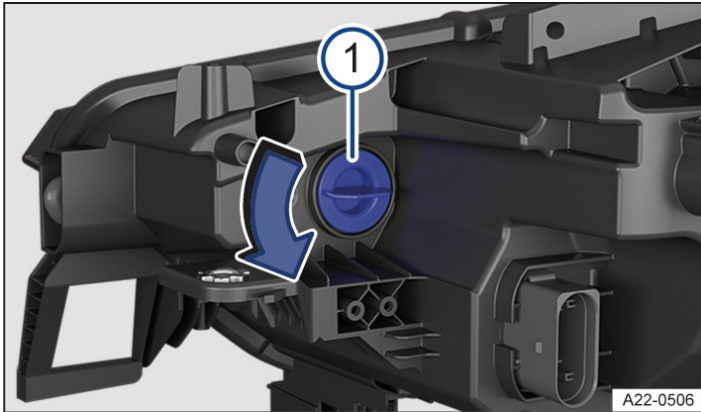

Fig. 1 In the bonnet space on the right: rear of the headlight.
① Turn signal bulb holder.
1. Turn the bulb holder in the direction of the arrow and pull it out → Fig. 1 ①.
3. Carefully insert the bulb holder into the headlight and turn it as far as it will go in the opposite direction to the arrow → Fig. 1 ①.